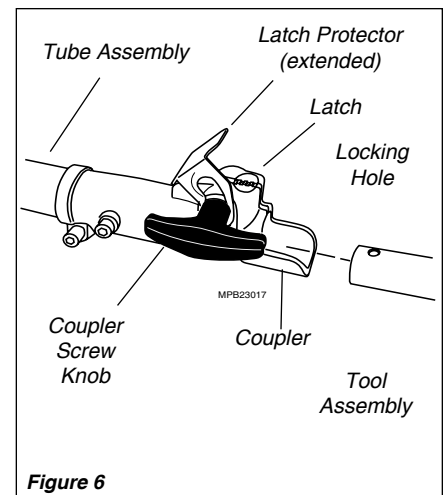

Figure 6
3. Insert the tool assembly into the coupler, with the tool decal facing up, until the line of the decal is flush with the end of the coupler. Twist the tool back and forth until you are sure the coupler latch snaps in place. See Figure 6.